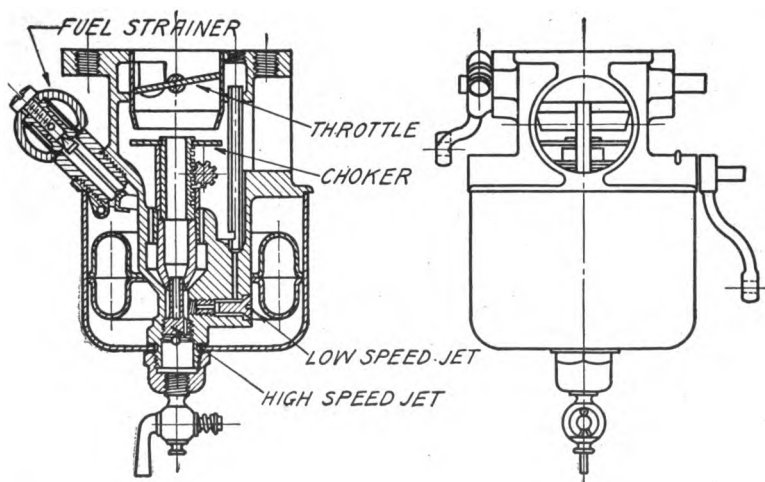

Fig. 117. Carter Model "H" Carburetor with Vertical Outlet
*Newer Carter Models.* In addition, this company has two newer models, "H" and "L," the principal difference being in the outlets, "H" having a vertical and "L" a horizontal outlet. The former is shown in Fig. 117, which shows both a vertical section and end view. It will be noted that the fuel passes through a strainer into the float chamber, then entering below passes through